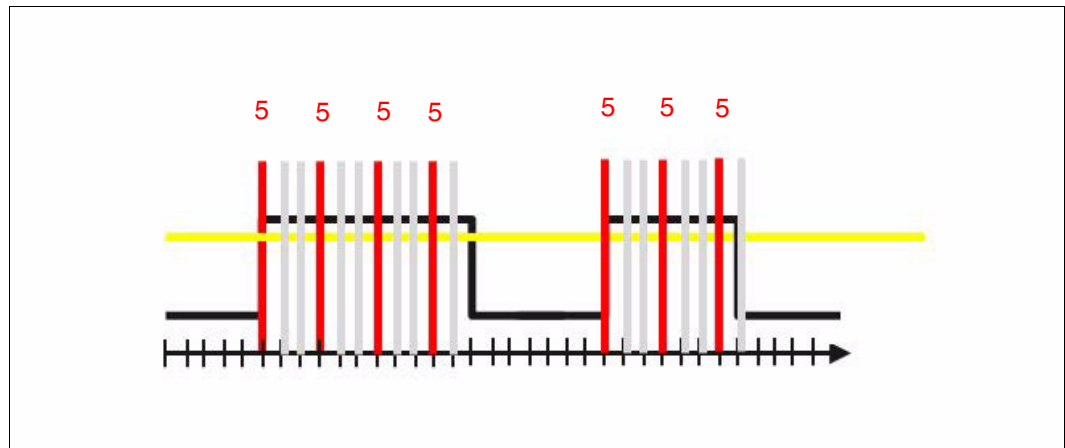

Figure 3-29 Only generate alerts every x minute(s)/hour(s)/day(s)
Figure 3-29 shows that while the threshold violation persists, notifications are sent out every x minute(s)/hour(s)/day(s) (5).